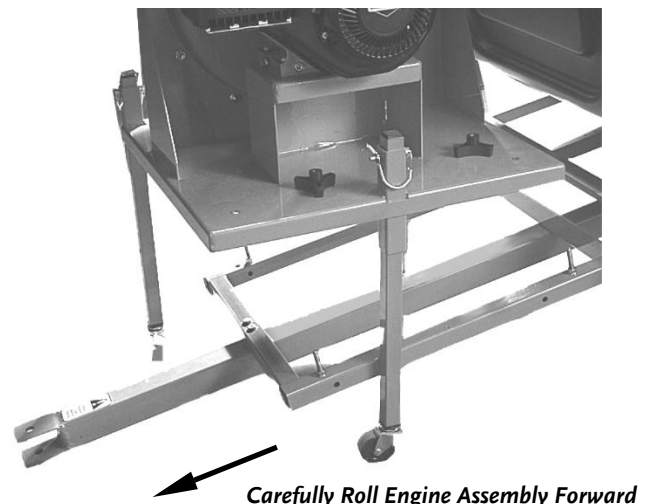

Figure 49
6. Slowly lower the trailer from under the engine (**Figure 49**). The engine assembly is now free to be moved away from the trailer.
7. Carefully roll the Engine Assembly forward from the trailer frame (**Figure 49**).